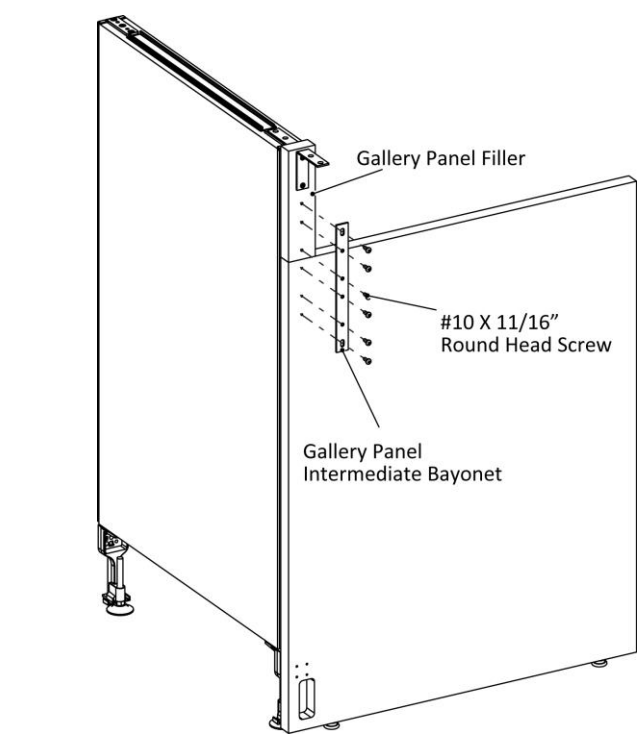

Figure 5
9. Position and align the holes in the gallery panel intermediate bayonet to pre-drilled holes in the gallery panel filler and gallery panel, (Figure 5).